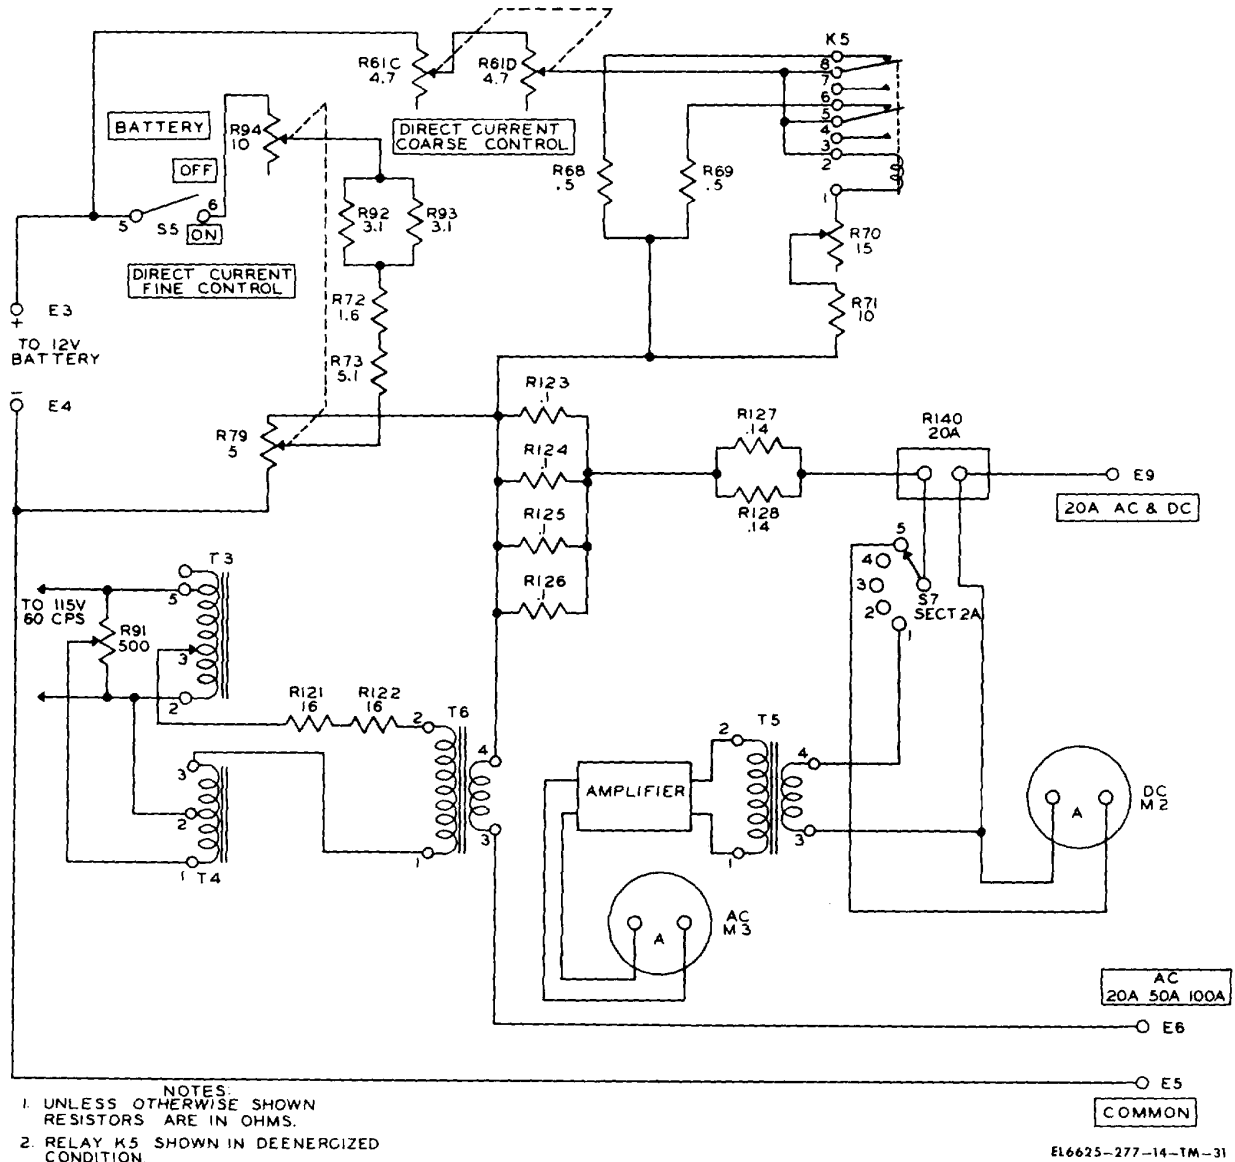

Figure 5-19. Twenty ampere dc test circuit, simplified schematic diagram.
g. *Twenty-Ampere Dc Test Circuit (fig. 5-19).*